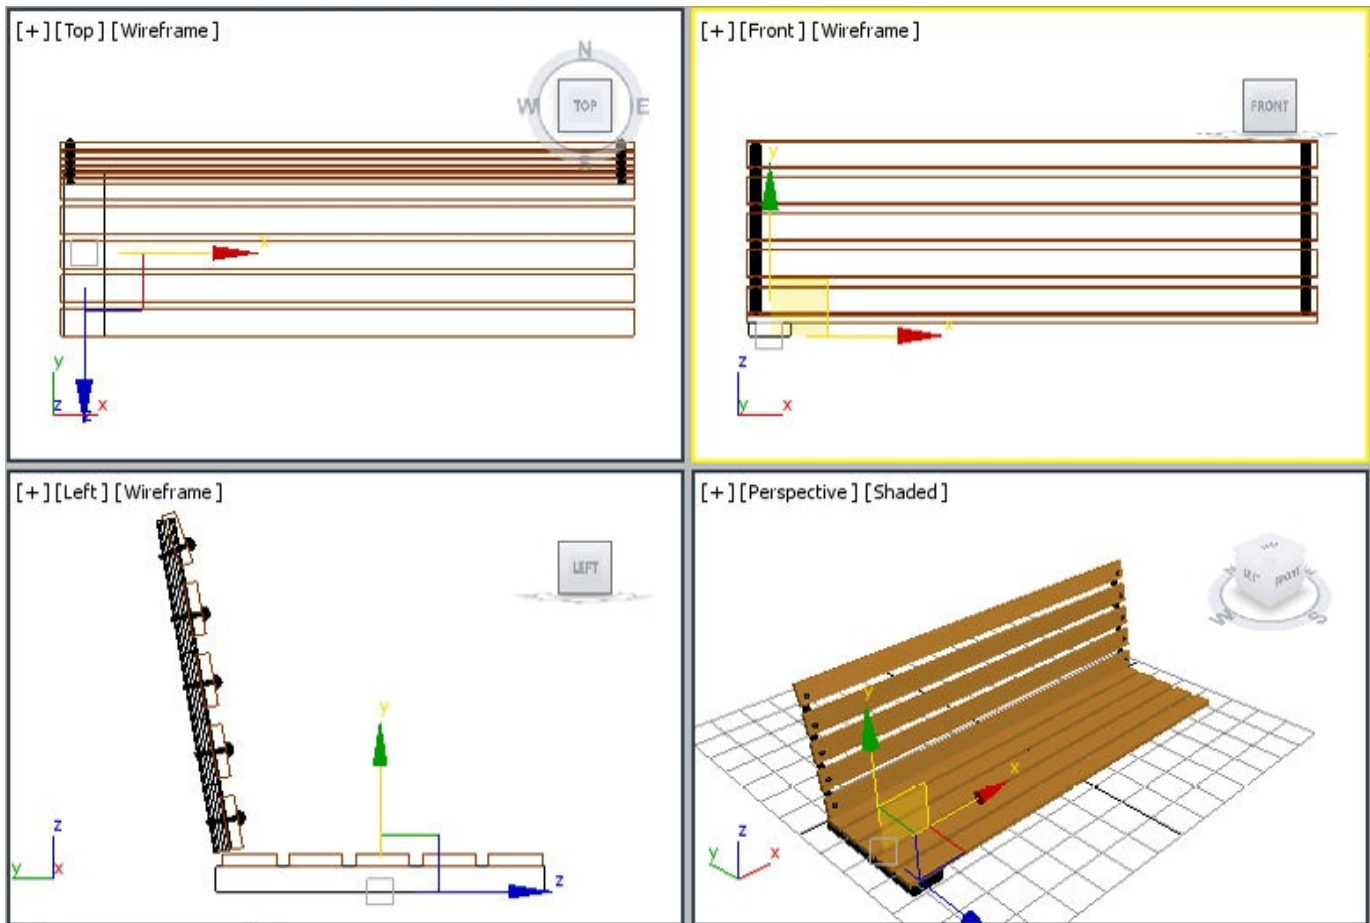

Figure 2-86 Alignment of leg support001 with horizontal seat support
5. Choose the **Select and Move** tool and align *leg support001* to the extreme left and below *horizontal seat support* in all viewports, refer to Figure 2-86.